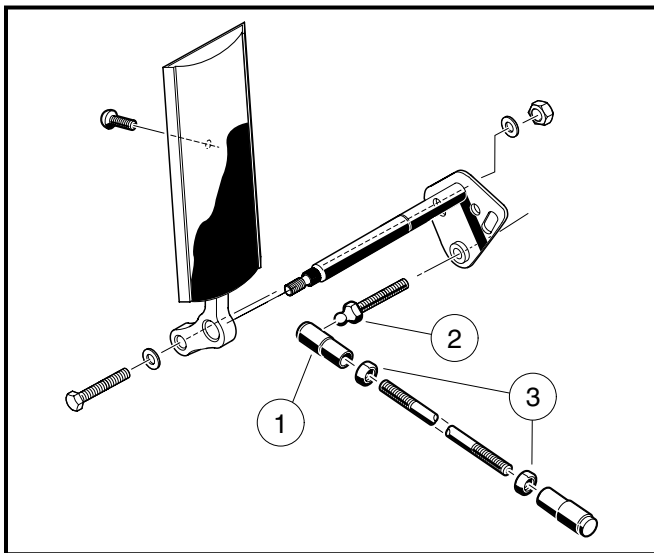
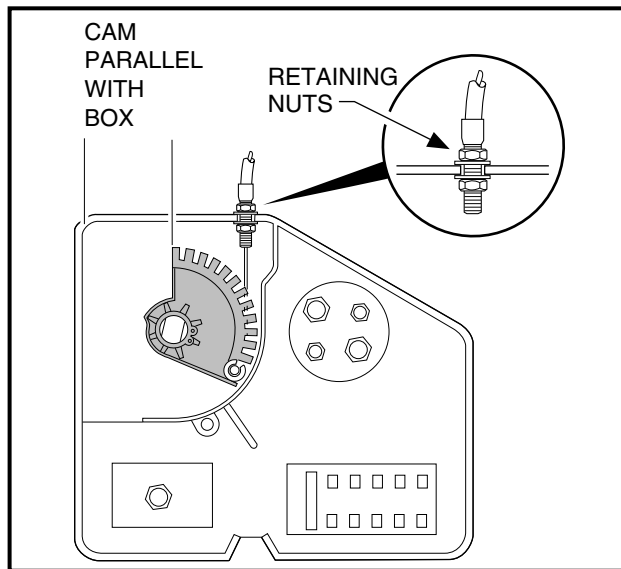
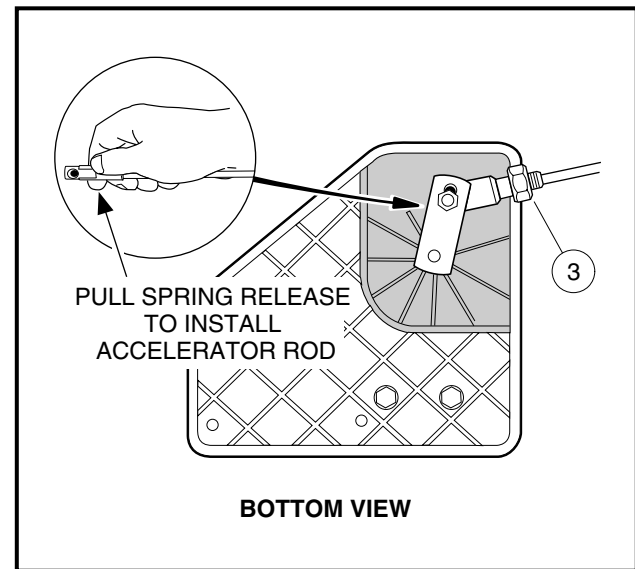
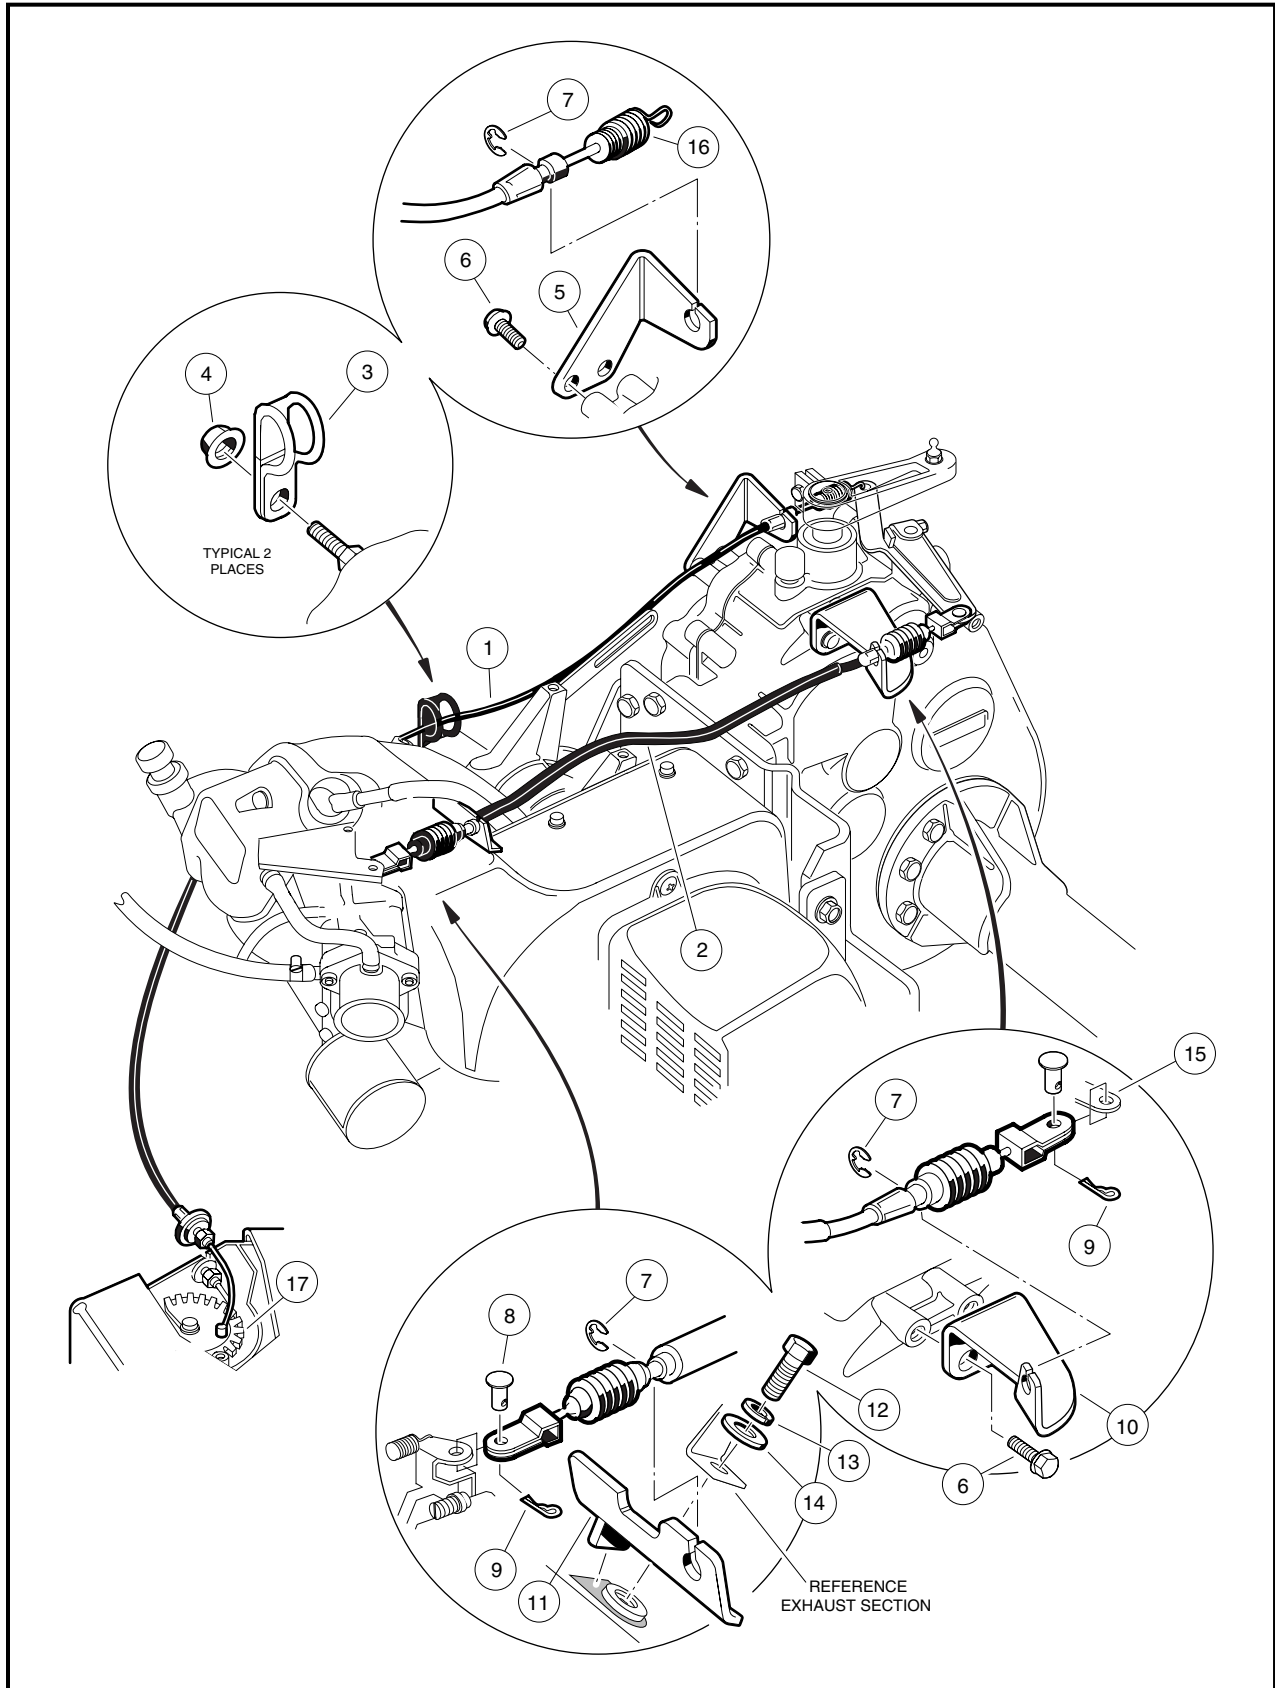

Figure 14-4 Accelerator Rod
Figure 14-5 Cam Position
Figure 14-6 Accelerator Rod
Figure 14-7 Governor and Accelerator
2. Disconnect the ball joint (1) from the ball stud (2) on the accelerator pedal (**Figure 14-4, Page 14-6**) and from the bell crank at the electrical box (**Figure 14-6, Page 14-8**).
3. Install the ball joint on the ball stud at the accelerator pedal (**Figure 14-4, Page 14-6**).
5. With the ball joint jam nuts (3) loose (**Figure 14-4, Page 14-6**), adjust the length of the accelerator rod so the indicated cam edge is parallel with the edge of the electrical component box (**Figure 14-5, Page 14-8**). See following **CAUTION**.
6. Install the accelerator rod on the bell crank ball joint on the electrical component box (**Figure 14-6, Page 14-8**). See following **CAUTION** and **NOTE**.
3. Remove the E-ring (7) at the governor cable engine bracket (11), and governor cable support bracket (10) (**Figure 14-7, Page 14-9**).
4. Remove the cotter pin (9) and clevis pin (8) from the governor lever arm (15) and remove the cable (2).
1. Install the cable onto the governor cable support bracket (10) and the engine bracket (11) and attach an E-ring (7) at each end (**Figure 14-7, Page 14-9**).
3. Install governor cable end into carburetor throttle clevis and install clevis pin (8) and cotter pin (9).
4. Install governor cable clevis over governor lever arm and install clevis pin (8) and cotter pin (9).
3. Remove the electrical component box cover and loosen the cable housing retaining nuts (**Figure 14-5, Page 14-8**).
4. Disconnect cable (1) (**Figure 14-7, Page 14-9**) from cam (17) in the electrical box (**Figure 14-5, Page 14-8**).
5. Remove the E-ring (7) on the spring end of the cable at the accelerator cable bracket (5) (**Figure 14-7, Page 14-9**). Pull the cable housing out of the bracket.
6. Disconnect the spring (16) from the engine governor arm by rotating the arm counterclockwise one-half turn. Remove the cable assembly from the vehicle.
1. Connect the cable to the cam (17) in the electrical box (**Figure 14-7, Page 14-9**).
2. Insert the cable housing into the mounting slot in the wall of the electrical box, with approximately the same number of threads visible between the jam nuts as are visible from the nut inside the box to the end of the cable housing (**Figure 14-5, Page 14-8**). Tighten the nuts finger-tight.
3. Connect the spring (16) to the engine governor arm (**Figure 14-7, Page 14-9**).
4. Install cable in accelerator cable bracket (5) and secure it with E-ring (7).
3. To **reduce** RPM, loosen the accelerator cable retaining nut on the outside of the electrical box wall and tighten the retaining nut on the inside of the wall until the specified RPM is reached (**Figure 14-5, Page 14-8**). To **increase** RPM, loosen the cable retaining nut inside the electrical box and tighten the nut outside the box until the desired RPM is reached.